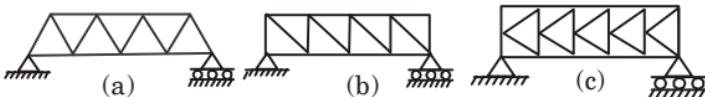

Fig. 2.1.3. Trusses according to the type of the web.
- 2. According to the Type of the Web :** It permits to subdivide the trusses into those with triangular patterns as shown in Fig. 2.1.3(a), those with quadrangular patterns as shown in Fig. 2.1.3(b) formed by vertical and diagonals, those with the web members form a letter K as shown in Fig. 2.1.3(c).